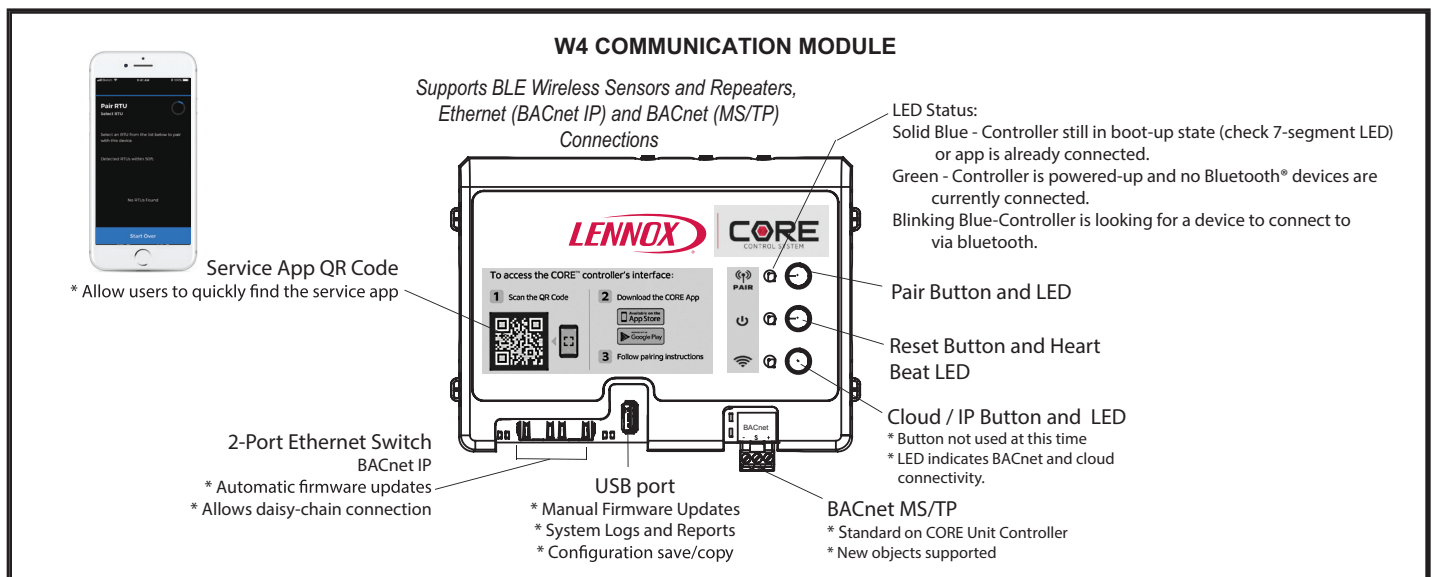

FIGURE 18
- 2 - Press and hold the pair button for five seconds. See FIGURE 18.